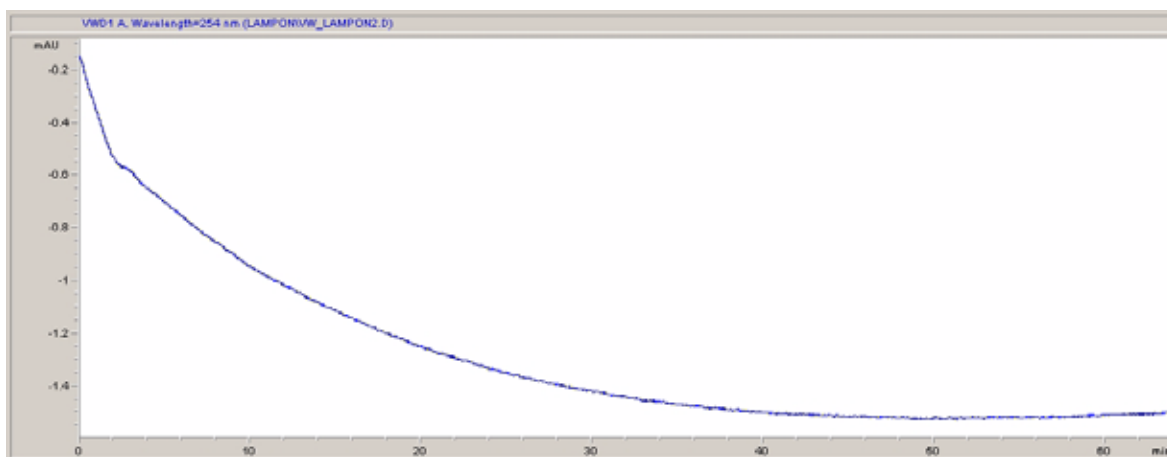

Figure 12 Stabilization of Baseline
- 6 Allow the detector to warm up of at least 60 minutes to provide a stable baseline (see example in Figure 12).